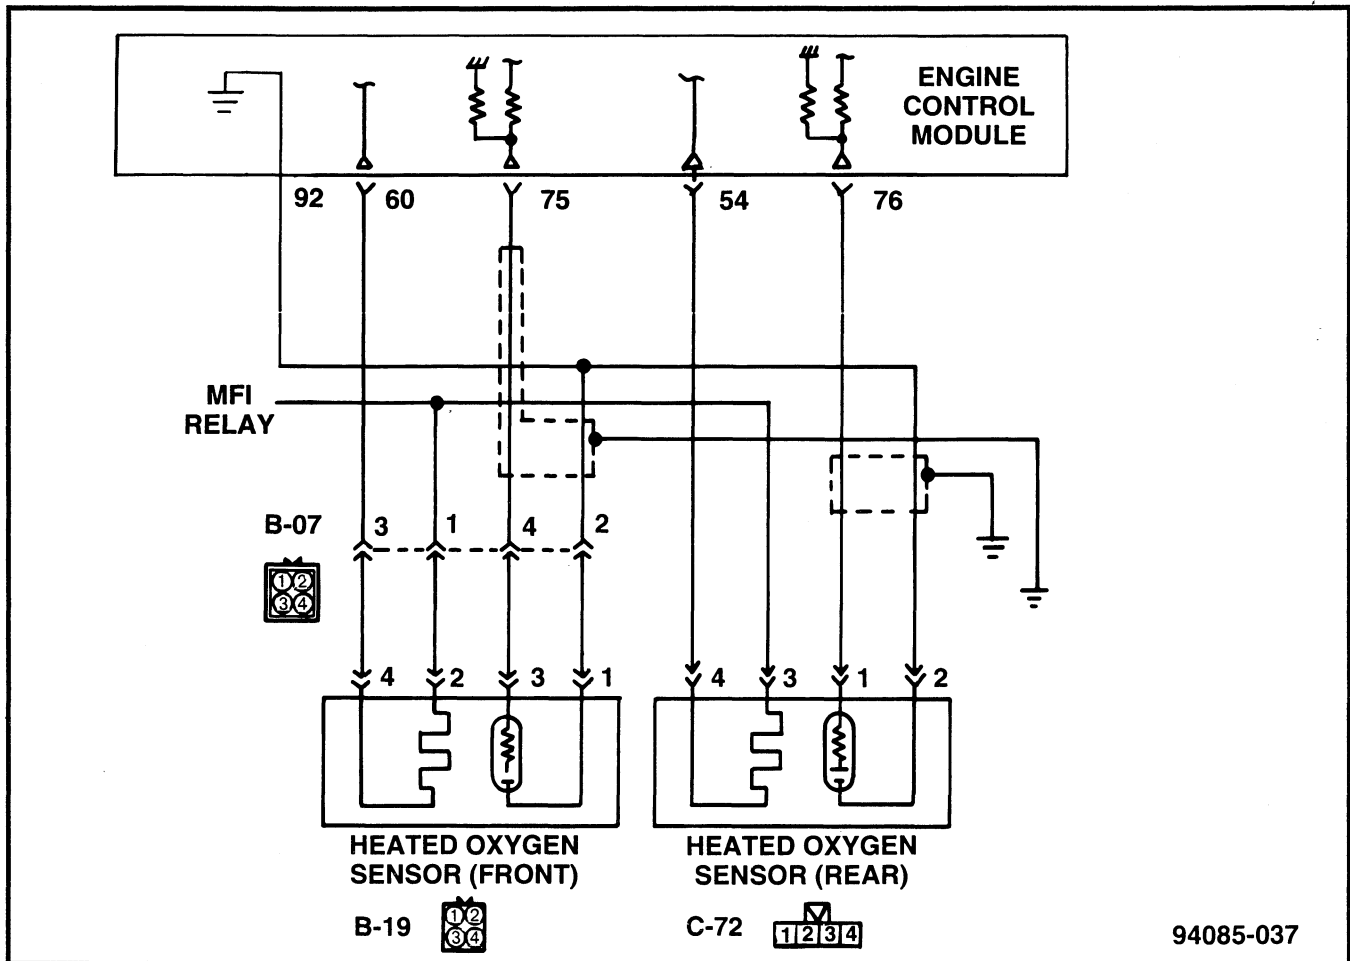

Figure 35 Oxygen Sensor Circuits
At operating temperature (about 1000°F), the sensor generates between 0 and 1 volt, based upon the amount of oxygen in the exhaust. ECM Pin 76 (WT) is the oxygen sensor input for the front sensor; ECM pin 75 (WT) is the input for the rear sensor (fig. 35). The oxygen sensor signal-out and ground wires are shielded to prevent electrical interference from affecting the signal.